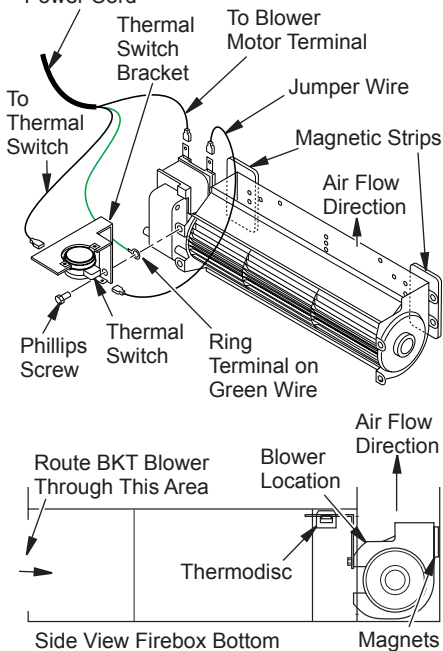

Figure 6 - Blower Model BKT
1. Place the green ground wire with ring terminal between the bottom hole on the thermal switch bracket and the top ear hole on the blower assembly. Insert the phillips screw into all three pieces and tighten securely (see Figure 6).
- Place the blower against the lower rear wall of the firebox outer wrapper with the exhaust port directed upward and the thermodisc positioned up near the fireplace bottom. The thermodisc must be oriented near the fireplace bottom as shown in Figure 6 in order to sense temperature and properly operate. The blower will be held in position against the back wall by the magnets incorporated onto the blower housing (see Figure 6, page 4).